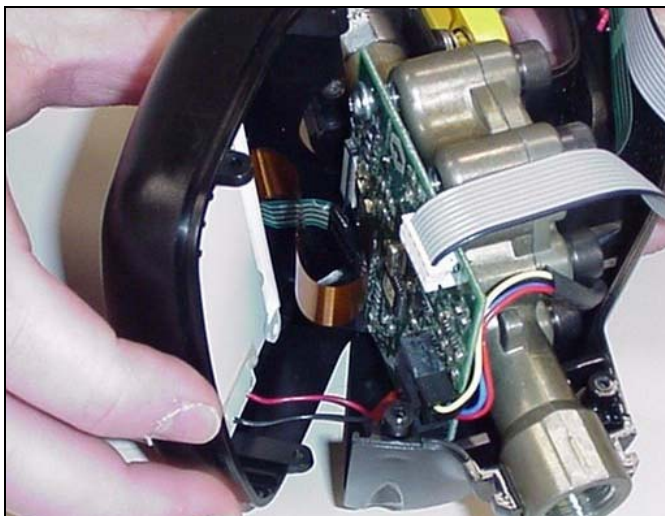

FIG. 26
9. Pull the bezel (31) away and up from the right cover half (18). See FIG. 26.